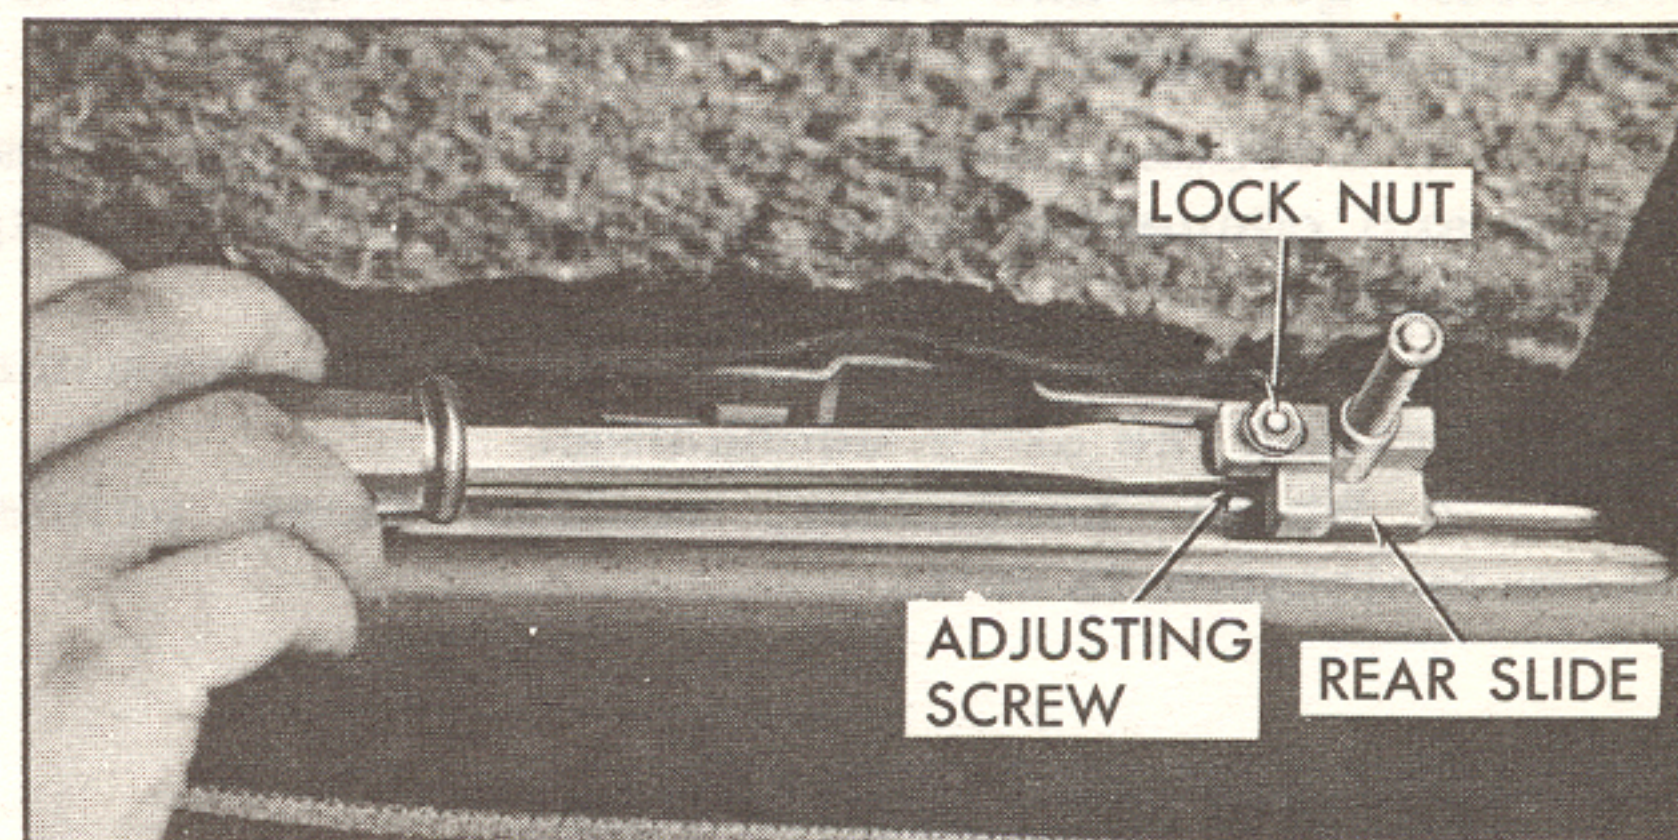

Fig. 11. Rear Panel Alignment
1. To obtain a flush fit with the roof on one side of rear of roof panel, loosen 3/8" locknut on rear slide, Fig. 11.
2. Using a screwdriver, turn adjusting screw clockwise to raise roof panel and counterclockwise to lower panel, Fig. 11.